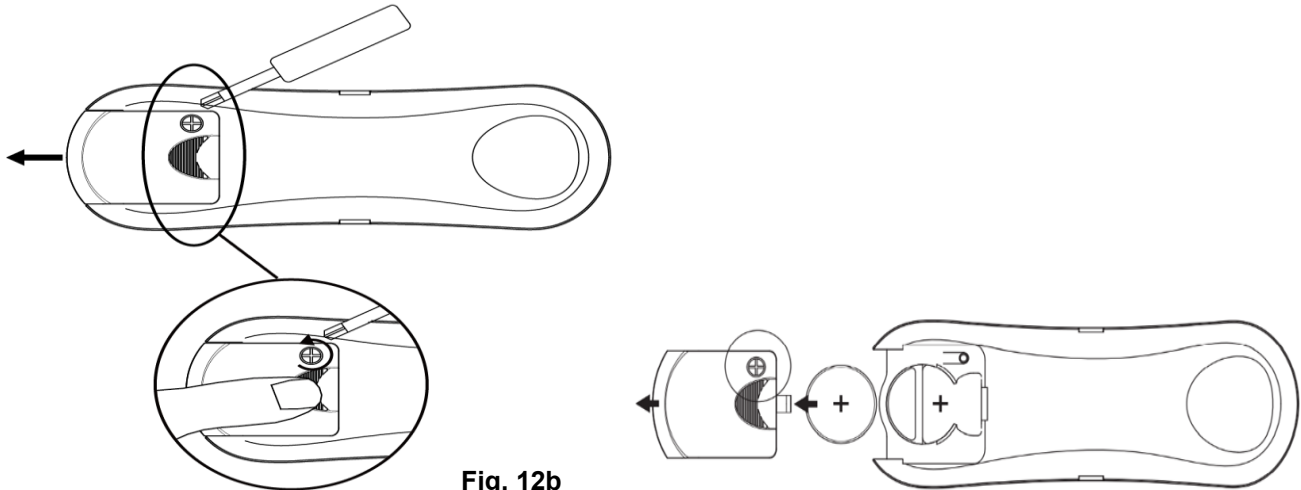

Fig. 12b
2. Slide to remove the battery compartment cover from the back of the remote, to access the battery (Fig. 12b)